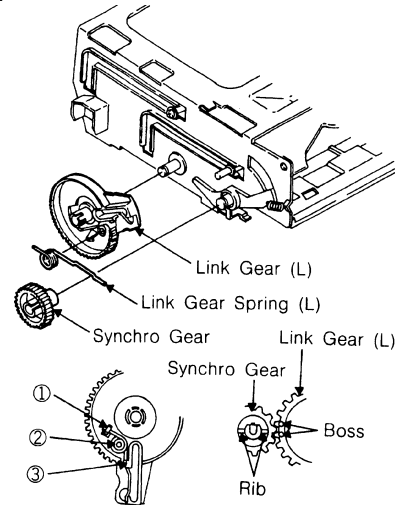

Fig. 2-12
2-12: LINK GEAR (L) (Refer to Fig. 2-12)
2. Remove the Link Gear (L).
1. When installing the Link Gear Spring (L) on the Link Gear (L), proceed in order (1), (2), (3) as shown in Fig. 2-12.
2. When installing the Synchro Gear, match the position of the Synchro Gear so that the line over the two ribs on the Synchro Gear goes between the marking bosses on the Link Gear (L).